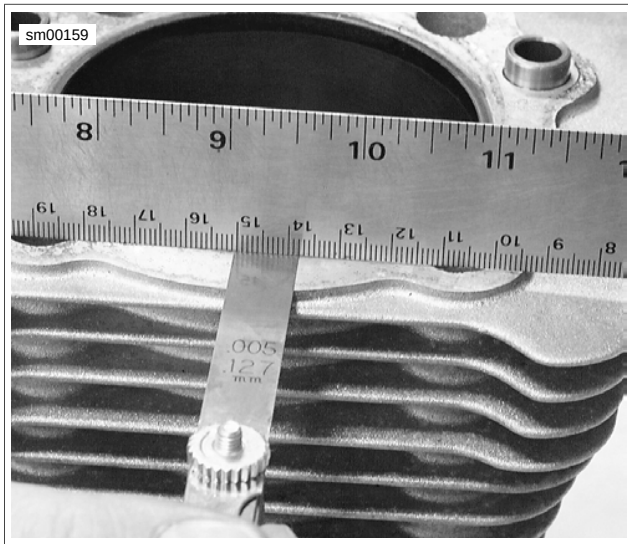

Figure 3-75. Checking Gasket Surface
1. See Figure 3-75. Check cylinder head gasket surface for flatness.